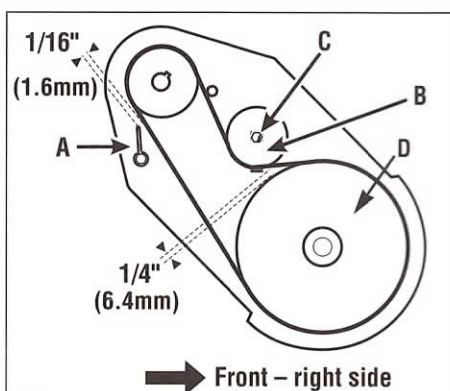

Fig. 5-6
1. Place belt under tension by engaging wheel drive clutch lever. See Fig. 5-6.
2. Adjust belt guide (A) to 1/16" (1.6mm) or less away from belt.
3. Adjust belt guide (B) 1/4" (6.5mm) away from pulley (D).
4. Tighten belt guide (B) at bolt (C) after adjusting.